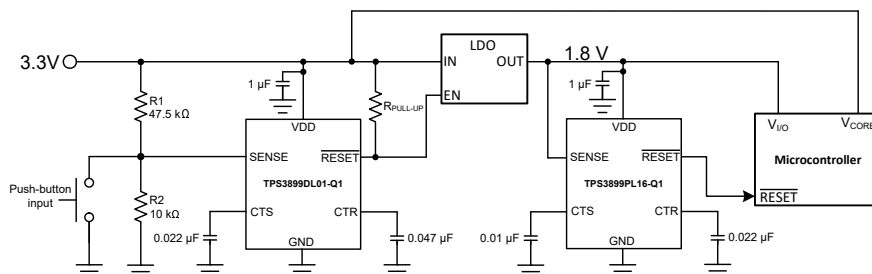

Figure 9-1. TPS3899-Q1 Voltage Rail Monitor and Power-Up Sequencer Design Block Diagram
A typical application for the TPS3899-Q1 is voltage rail monitoring and power-up sequencing as shown in Figure 9-1. The TPS3899-Q1 can be used to monitor any rail above 0.8 V. In this design application, two TPS3899-Q1 devices monitor two separate voltage rails and sequences the rails upon power-up. The TPS3899DL01-Q1 is used to monitor the 3.3 V main power rail and the TPS3899PL16-Q1 is used to monitor the 1.8 V rail provided by the LDO for other system peripherals. The RESET output of the TPS3899DL01-Q1 is connected to the enable (EN) input of the LDO with an external pull-up resistor $R_{PULL-UP}$ to the 3.3 V power rail. The RESET output of the TPS3899PL16-Q1 is connected to the (RESET) input of the microcontroller. A reset event is initiated on either voltage supervisor when the VDD voltage is less than V_{IT} , falling threshold voltage. For a system reset event, a push-button input is placed at the SENSE pin of the TPS3899DL01-Q1.